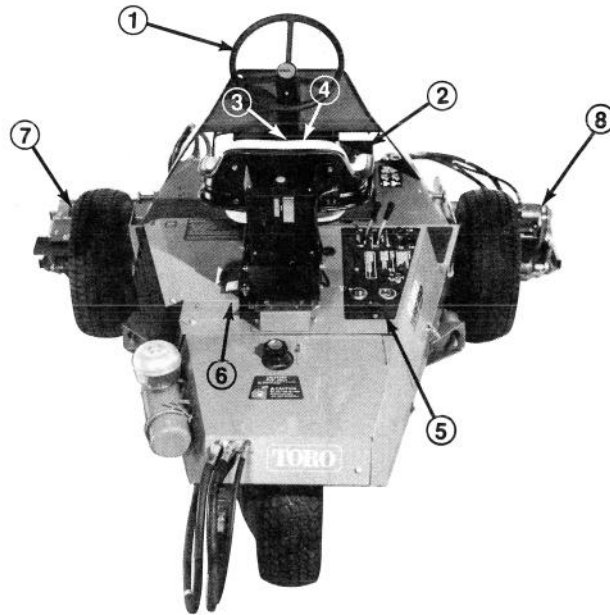

Figure 20
**Traction Pedal** (Fig. 20) — Traction pedal has two functions; one to make the machine move forward, the other to move it backward. Using the heel and toe of the right foot, depress top of pedal to move forward and bottom of pedal to move backward. Ground speed is proportionate to how far pedal is depressed. For maximum ground speed with no load, traction pedal must be fully depressed while throttle is in FAST position. Maximum speed forward is approximately 10 mph (16 km/hr). To get maximum power under heavy load or when ascending a hill, have throttle in FAST position while depressing traction pedal slightly to keep engine rpm high. When engine rpm begins to decrease, release traction pedal slightly to allow engine rpm to increase.
**Brake Pedal** (Fig. 20) — Brake pedal actuates 8 in. (20.3 cm) diameter caliper type mechanical disc brake assemblies on each front wheel.
**Parking Brake Button** (Fig. 20) — Depressing the Brake Pedal to actuate the brake assembly, then depressing the small button indicated will keep the brakes actuated for parking. Disengage by depressing the brake pedal. Whenever the engine is shut off, the parking brake must be engaged to prevent accidental movement of the machine.